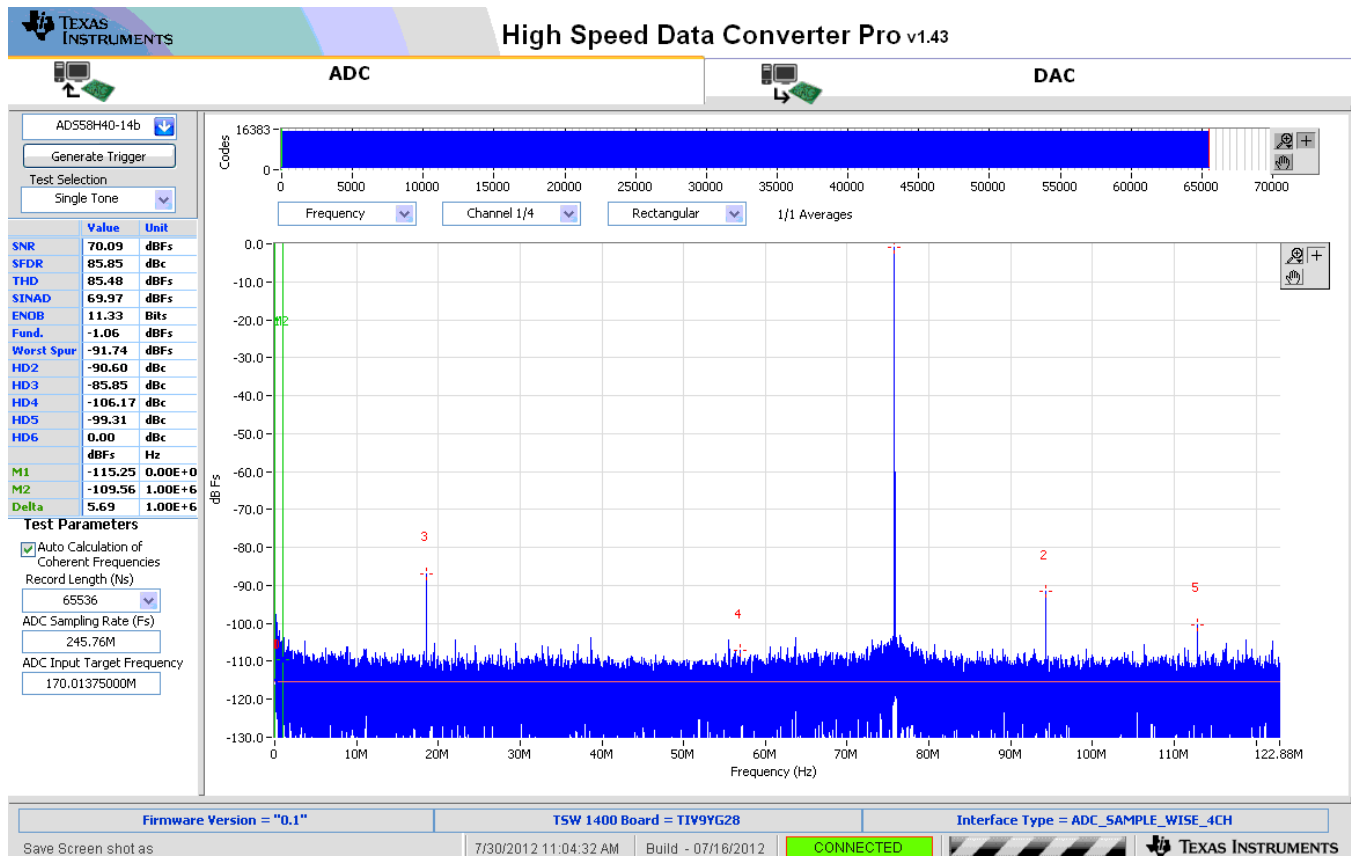

Figure 14. ADS58H4x 14-bit High-Resolution Mode, Single Tone Test Result:
5. In the EVM GUI, enable High Resolution Burst Mode of the channels under evaluation. Set the desired high- and low-resolution samples. The example shown in Figure 14 has both high samples and low samples set to maximum. This ensures that the entire FFT is analyzed with 14-bit capture for accurate SNR and SFDR calculations.
8. Observe an FFT result similar to that of Figure 14.